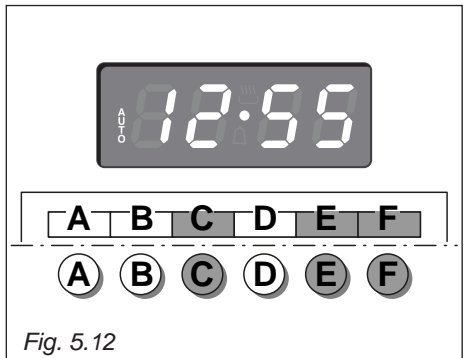

Fig. 5.12
2. Set the end of the cooking time by pressing the “C” button (the cooking time already added to the clock time will appear) and the “F” button (fig. 5.12); if you pass the desired time you may get back by pushing the “E” button.